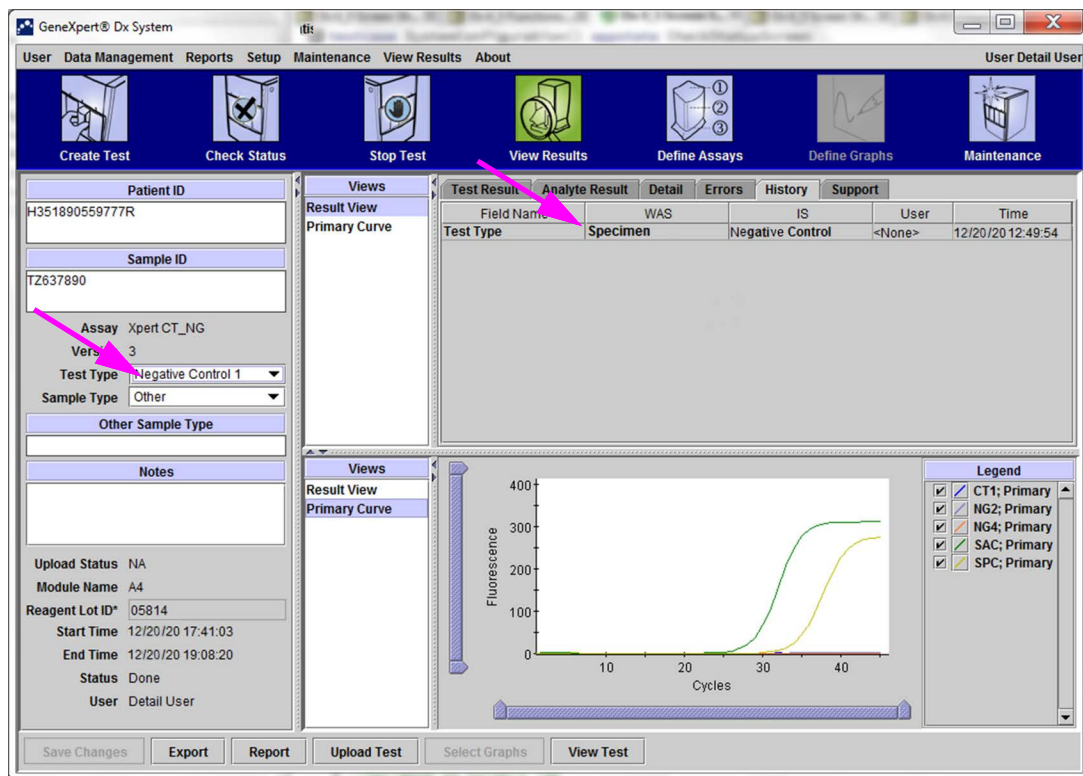

Figure 5-47. History Tab showing Change from Specimen to Negative Control Test Type
5. Click **Yes** to save the changes and proceed. The software tracks the change history (see Figure 5-47).